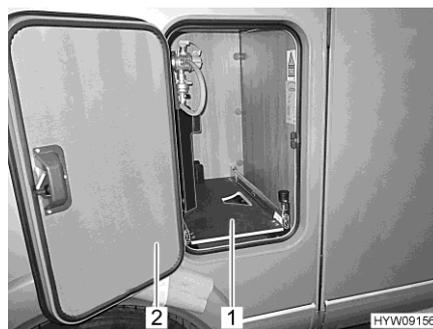

Fig. 84 Gas bottle compartment pull-out
- Open flap (Fig. 84,2) for the gas bottle compartment.
- Pull out the gas bottle compartment pull-out (Fig. 84,1) until the knob engages again. Now, the gas bottle compartment pull-out is locked in this position.